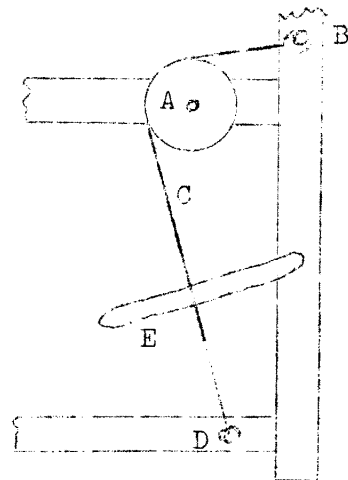

Fig.3
The let-off is shown in fig.3. One end of the warp beam is round (A) or rounded up if necessary. No particular precision in doing this is needed. A $\frac{3}{8}$ bolt is set in the loom frame at B, some 6" from the warp beam. Now we take about 5 yards of heavy sash cord, double it up and pass the center around bolt B. The